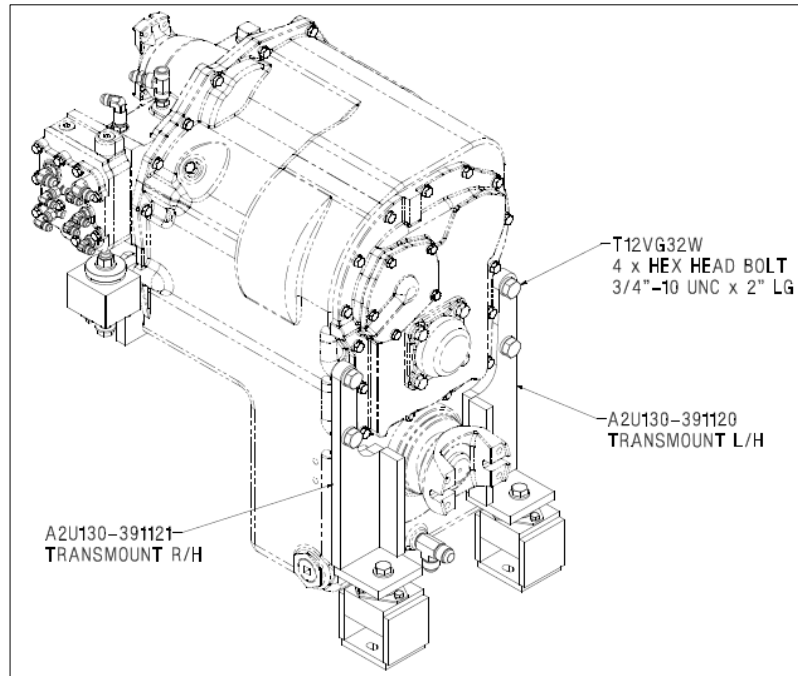

Fig 1. Transmission & Mounting Group
- **An inspection of the front transmission mounts (see Fig 1) must be carried out at the next available opportunity.**